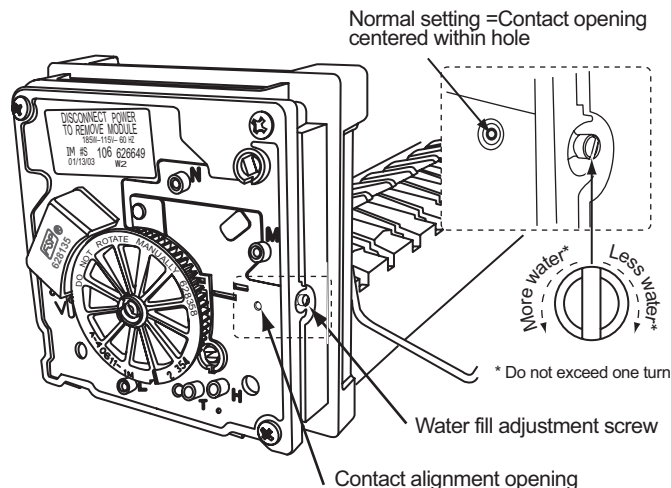

Figure 60. Water fill adjustment screw
5. Locate the screw and contact alignment opening shown in Figure 60.
6. Determine the position of the hole in the internal contact plate. *Do not adjust the water fill adjustment screw if the hole is centered within the housing hole.* See Figure 60.
7. To readjust the water fill level turn the adjustment screw clockwise or counterclockwise as required until the contact hole is centered in the module hole. See Figure 60.